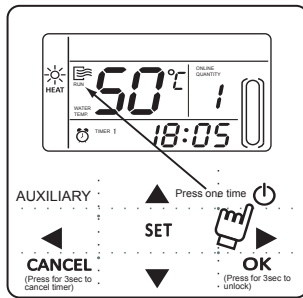

Fig.4-1
- 1) Use straight head screwdriver to insert into the buckling position in the bottom of wire controller, and spin the screwdriver to take down the back cover. (Pay attention to spinning direction, otherwise will damage the back cover!) (Fig.4.1)